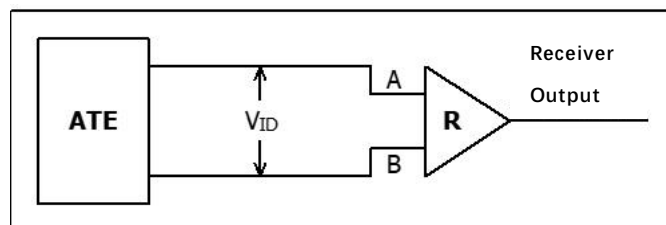

Figure 5 Receiver Propagation Delay Test Circuit
- (5) Test circuit is shown in Figure 5